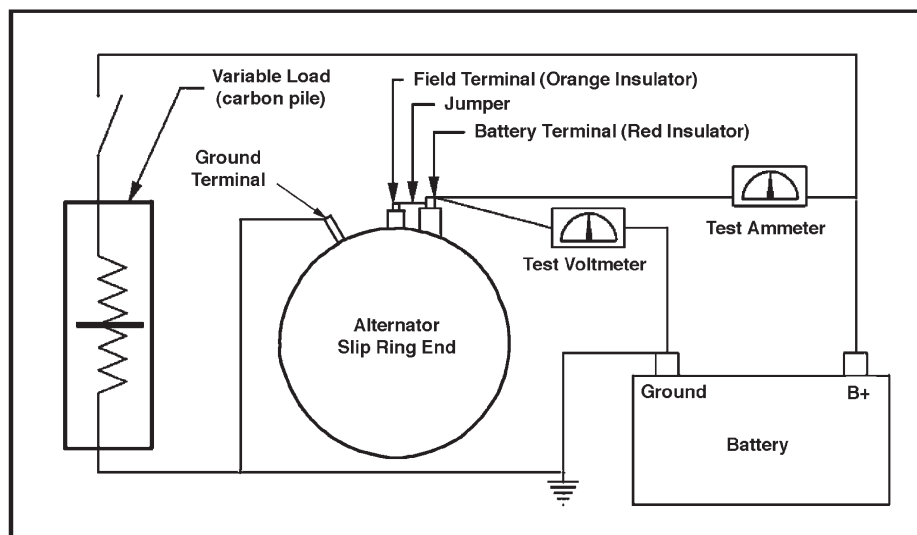

Figure 5.1 - Typical Bench Testing Set Up.
- (1) Fabricate the test set up as shown in Figure 5.1.
- (2) Apply 50-70 lbs. of tension to the drive belt and check for belt slippage. If the belt slips, increase tension in 5 pound increments, not to exceed 90 lbs. Check drive belt tension with a belt tension gauge.
- (3) Use an Optical tachometer to observe RPM (per manufacturers instruction).
- (4) Battery (-NEG) and the alternator case must share a common ground.